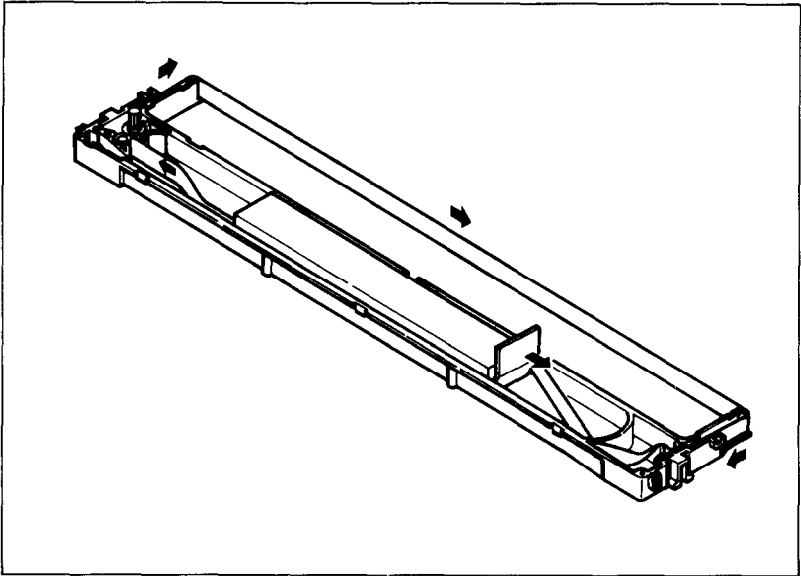

Figure 8-3. Make sure that the ribbon is not twisted when you thread it through its path.
5. Pull sufficient ribbon out of the holder, and thread it as shown in Figure 8-3. Be careful that the half-twist in the ribbon is positioned in the right-hand section of the ribbon cartridge, between the two guide posts. Make sure that no twists occur anywhere else.